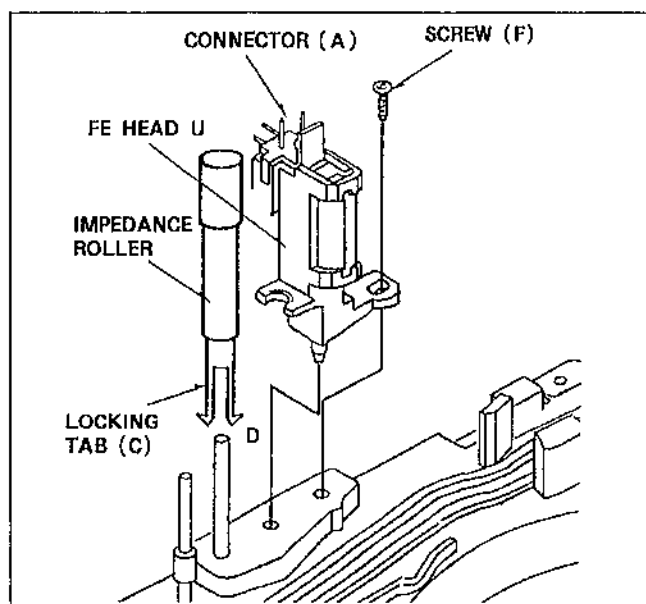

Fig.M5
2. Unlock then locking tab to direction of arrow mark as shown in Fig.M5 and remove the Impedance Roller Unit.